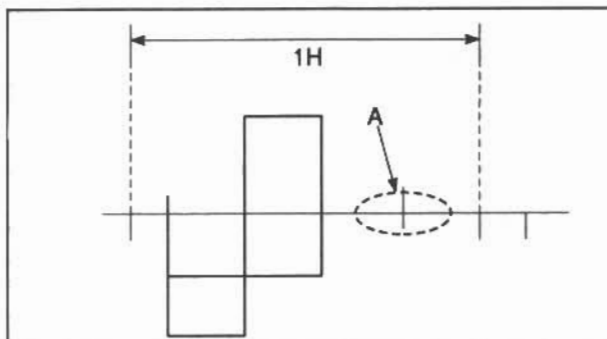

Fig. 4
3. Adjust T301 so that waveform "A" may be the same as shown in Fig. 4.